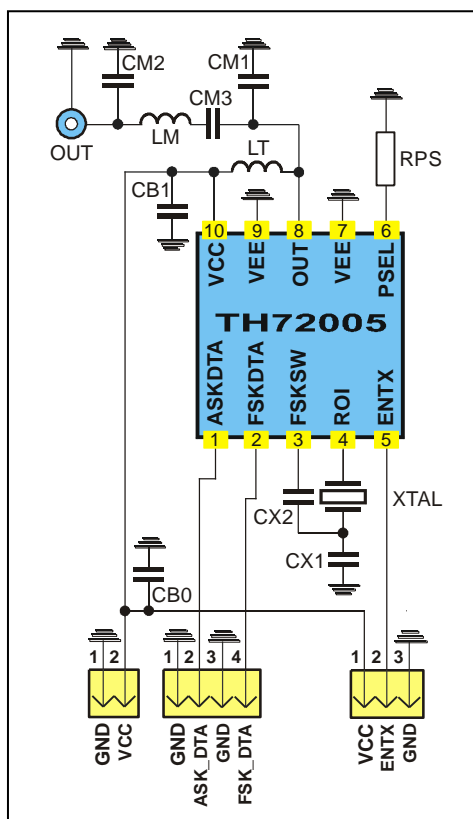

Fig. 18: Test circuit for FSK and ASK with 50  $\Omega$  matching network
typical values at  $T_A = 23\text{ }^{\circ}\text{C}$  and  $V_{CC} = 3\text{ V}$ ; test circuit shown in Fig. 18,  $f_c = 315\text{ MHz}$
- Data according to test circuit in Fig. 18
### 6.1. Test circuit component list to Fig. 18